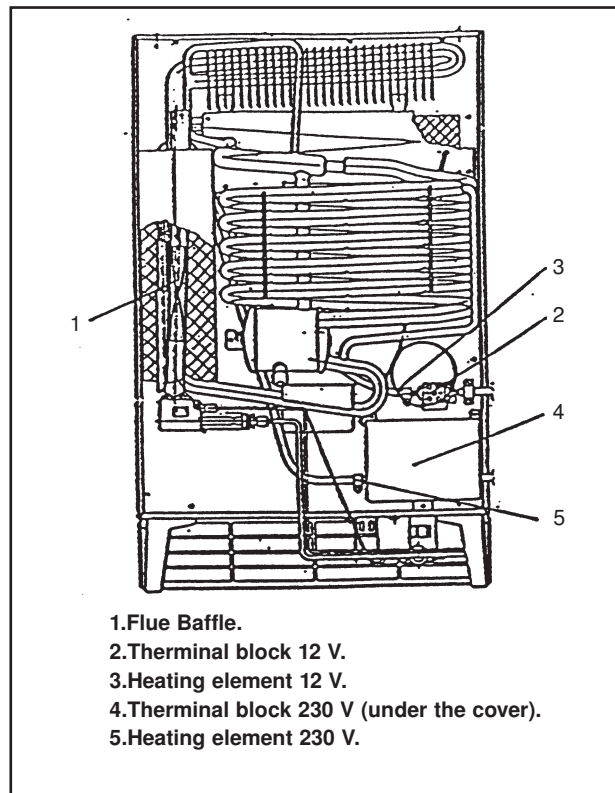

Fig. 10
The refrigerator will always be built into a recess but to enable the unit to operate efficiently, it is essential that air is allowed to circulate freely over the cooling unit at the back to carry away the heat generated during the cooling process (see fig. 10). The minimum free spaces called for under, behind and over the cabinet must not, therefore, be reduced in any way. **The more space provided, particularly behind and over the cabinet, the better the performance you can expect from the cooling unit.**
The flue baffle (4, fig. 10) must be in position in the central tube of the boiler, suspended on its support wire so that the lower end of the baffle is 75 mm (3") above the bottom of the central tube over the burner. The top end of the baffle support wire is bent into the shape of an "O" and rests horizontally on the top of the central tube. The baffle is correctly positioned during the manufacture and should not become displaced during normal use. If the flue baffle is missing or is incorrectly located, the cooling unit will not operate properly on gas. Any strapping tape used to retain the baffle support wire to the top of the boiler casing during transit should be removed before installation.
c) Wiring for 12V Operation (See figs. 10, 12a and 12b).
For operation on 12V, the boiler of the cooling unit is fitted with an 75 watt heating element (2, fig. 10) connected to a terminal block (3) attached to the back of the refrigerator. Before installing the refrigerator, the wiring for the 12V supply should be connected to the terminal block, leaving enough slack subsequent insertion and withdrawal of the refrigerator for servicing purposes.
For operation on 12V, the boiler of the cooling unit is fitted with an 75 watts heating element (2, fig. 10), connected to a two way terminal block (3) at the back of the refrigerator, 12V operation is not thermostatically controlled therefore the cooling unit will operate all the time the refrigerator is connect to the 12V supply. (As 12V operation is intended for use only while the caravan is on tow, overcooling is unlikely because of the comparatively short time involved. If overcooling does occur during extended towing periods, the refrigerator may be disconnected periodically as experience proves necessary).